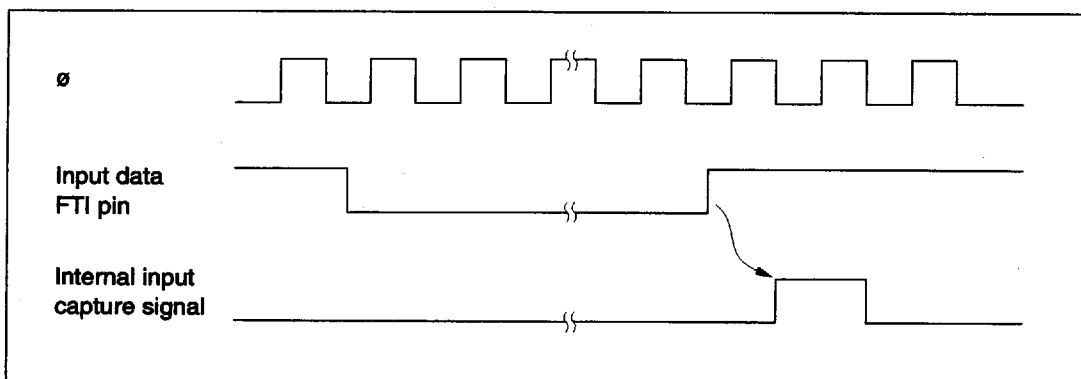

Figure 8-8 Input Capture Timing (Usual Case)
(1) **Input Capture Timing:** An internal input capture signal is generated from the rising or falling edge of the signal at the input capture pin FTI_x ($x = A, B, C, D$), as selected by the corresponding IEDG_x bit in TCR. Figure 8-8 shows the usual input capture timing when the rising edge is selected (IEDG_x = 1).